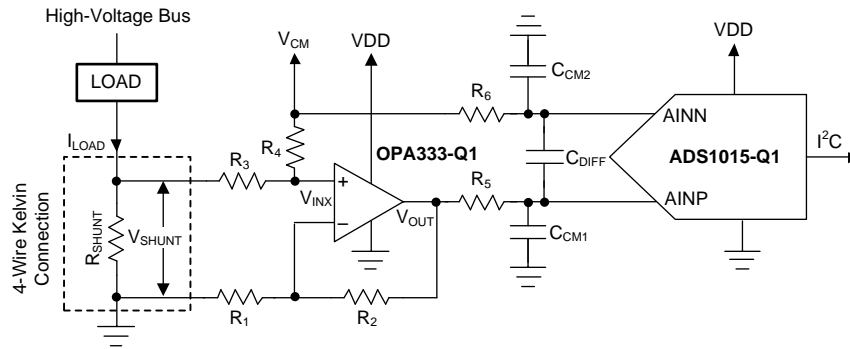

Figure 29. Low-Side Current Shunt Monitoring
Shunt-based, current-measurement solutions are widely used to monitor load currents. Low-side, current-shunt measurements are independent of the bus voltage because the shunt common-mode voltage is near ground. Figure 29 shows an example circuit for a bidirectional, low-side, current-shunt measurement system. The load current is determined by measuring the voltage across the shunt resistor that is amplified and level-shifted by a low-drift operational amplifier, OPA333-Q1. The OPA333-Q1 output voltage is digitized with ADS1015-Q1 and sent to the microcontroller using the I²C interface. This circuit is capable of measuring bidirectional currents flowing through the shunt resistor with great accuracy and precision.
- To level-shift the ground-referenced signal to allow bidirectional current measurements while running off a unipolar supply. The voltage across the shunt resistor, V_{SHUNT} , is level-shifted by a common-mode voltage, V_{CM} , as shown in Figure 29. The level-shifted voltage, V_{INX} , at the noninverting input is given by Equation 3.
A shunt resistor (R_{SHUNT}) is an accurate resistance inserted in series with the load as shown in Figure 29. If the absolute voltage drop across the shunt, $|V_{SHUNT}|$, is a larger percentage of the bus voltage, the voltage drop may reduce the overall efficiency and system performance. If $|V_{SHUNT}|$ is too low, measuring the small voltage drop requires careful design attention and proper selection of the ADC, operation amplifier, and precision resistors. Make sure that the absolute voltage at the shunt terminals does not result in violation of the input common-mode voltage range requirements of the operational amplifier. The power dissipation on the shunt resistor increases the temperature because of the current flowing through it. To minimize the measurement errors due to variation in temperature, select a low-drift shunt resistor. To minimize the measurement gain error, select a shunt resistor with low tolerance value. To remove the errors due to stray ground resistance, use a four-wire Kelvin-connected shunt resistor, as shown in Figure 29.